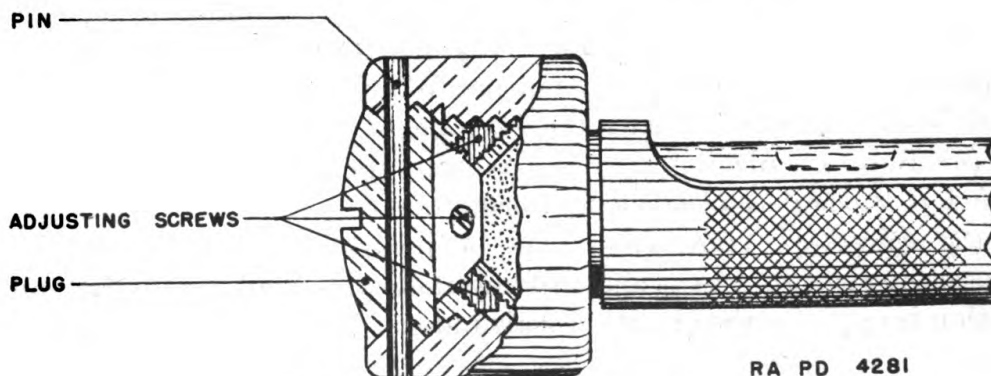

FIGURE 11.—Level vial adjustment.
(1) Uncover the level tube. Center the bubble and press down alternately on each end of the level tube. Note whether the bubble remains stationary during this procedure. If the bubble does not remain stationary, an adjustment of the level tube adjusting screws is necessary.
(2) Place a test level on the top surface of the telescope socket, parallel to the axis of the level tube being tested. If the bubble in the level tube on the mount is not centered when the test level bubble is centered, adjustment is necessary. (One level vial graduation error is allowable.)
*b. Adjustment* (fig. 11).—(1) Remove the pins from both ends of the level tube. Unscrew the right and left tube plugs.
(1) With a punch and a light hammer drive out the pins (fig. 11) which secure the level vial plugs. Unscrew both level vial plugs.
(2) Loosen the four adjusting screws. Extract the level tube assembly from its housing by sliding it out toward the right. Care should be exercised that the tube cover does not slide from its proper position and hinder the disassembling procedure.
(3) Clean out the calcined gypsum (plaster of paris) setting from each end of the level tube by means of a small screw driver or knife blade. Extract the level vial and thoroughly clean out the remaining plaster of paris.
*d. To reassemble longitudinal level assembly.*—(1) Place the level vial in the level tube and locate it so that the graduations are centered in the tube opening. Pack the tube with calcined gypsum (plaster of paris) which has been mixed to medium consistency.